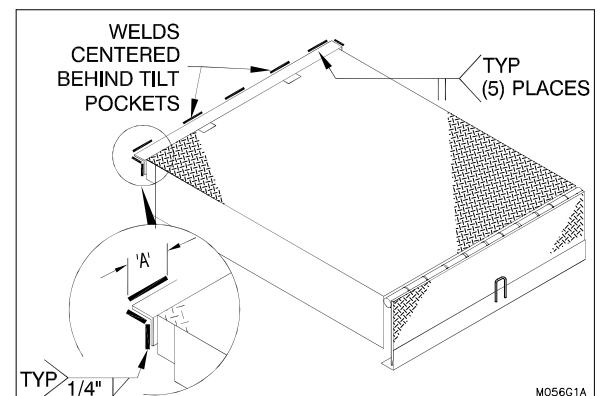

Figure 13: Hydraulic Dock Back Angle Weld of Dock Leveler
The maintenance stand of this dock leveler is designed for use only when the dock leveler is securely welded into the dock leveler pit. Use of the stand is not recommended if the dock leveler is not securely welded into the pit (see “Figure 13: Hydraulic Dock Back Angle Weld of Dock Leveler” on page 12). To support the dock leveler at times when installation welding is not in place, an appropriate generic maintenance stand that supports the dock leveler more centered on the dock leveler width is recommended.
CAUTION The maintenance stand of this dock leveler is designed for use only when the dock leveler is securely welded into the dock leveler pit. Use of the stand is not recommended if the dock leveler is not securely welded into the pit (see "Figure 13: Hydraulic Dock Back Angle Weld of Dock Leveler" on page 12). To support the dock leveler at times when installation welding is not in place, an appropriate generic maintenance stand that supports the dock leveler more centered on the dock leveler width is recommended.
5. ___ Weld back angle of dock leveler to rear curb angle as shown in "Figure 13: Hydraulic Dock Back Angle Weld of Dock Leveler" on page 12, using the welding reference and notes on page 26 as a guide.
16. ___ Complete welding the back angle of the dock leveler to the rear pit curb angle as shown in "Figure 13: Hydraulic Dock Back Angle Weld of Dock Leveler" on page 12.